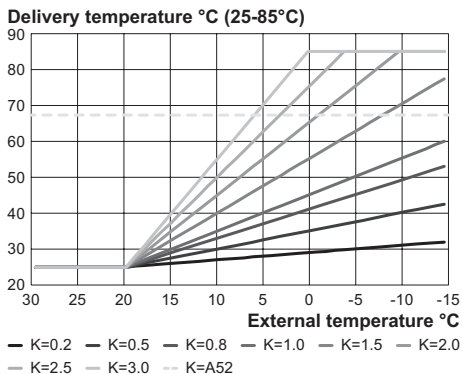
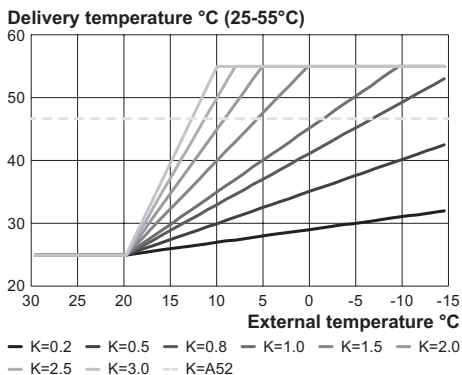
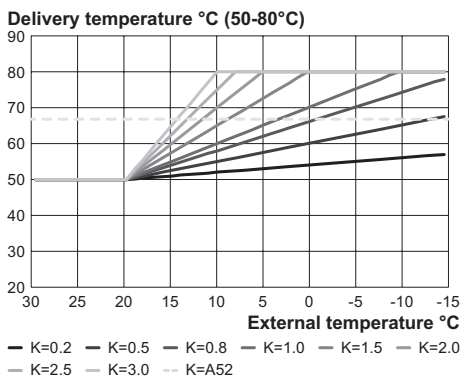

Fig. 8.6
Fig. 8.7
Fig. 8.8
With heating temperature setting **25-85°C** (Fig. 8.6) (factory set) or temperature setting **25-55°C** (Fig. 8.7) or temperature setting **50-80°C** (Fig. 8.8) (see "Selecting the heating temperature set" on page 53).
- Using buttons 13 or 14 it is possible to change the value of parameter P08 from a minimum of **1.0** to a maximum of **3.0** based on the selected curve of the K coefficient in Fig. 8.7 (the value read on the display corresponds to the decimal values of the K coefficients).